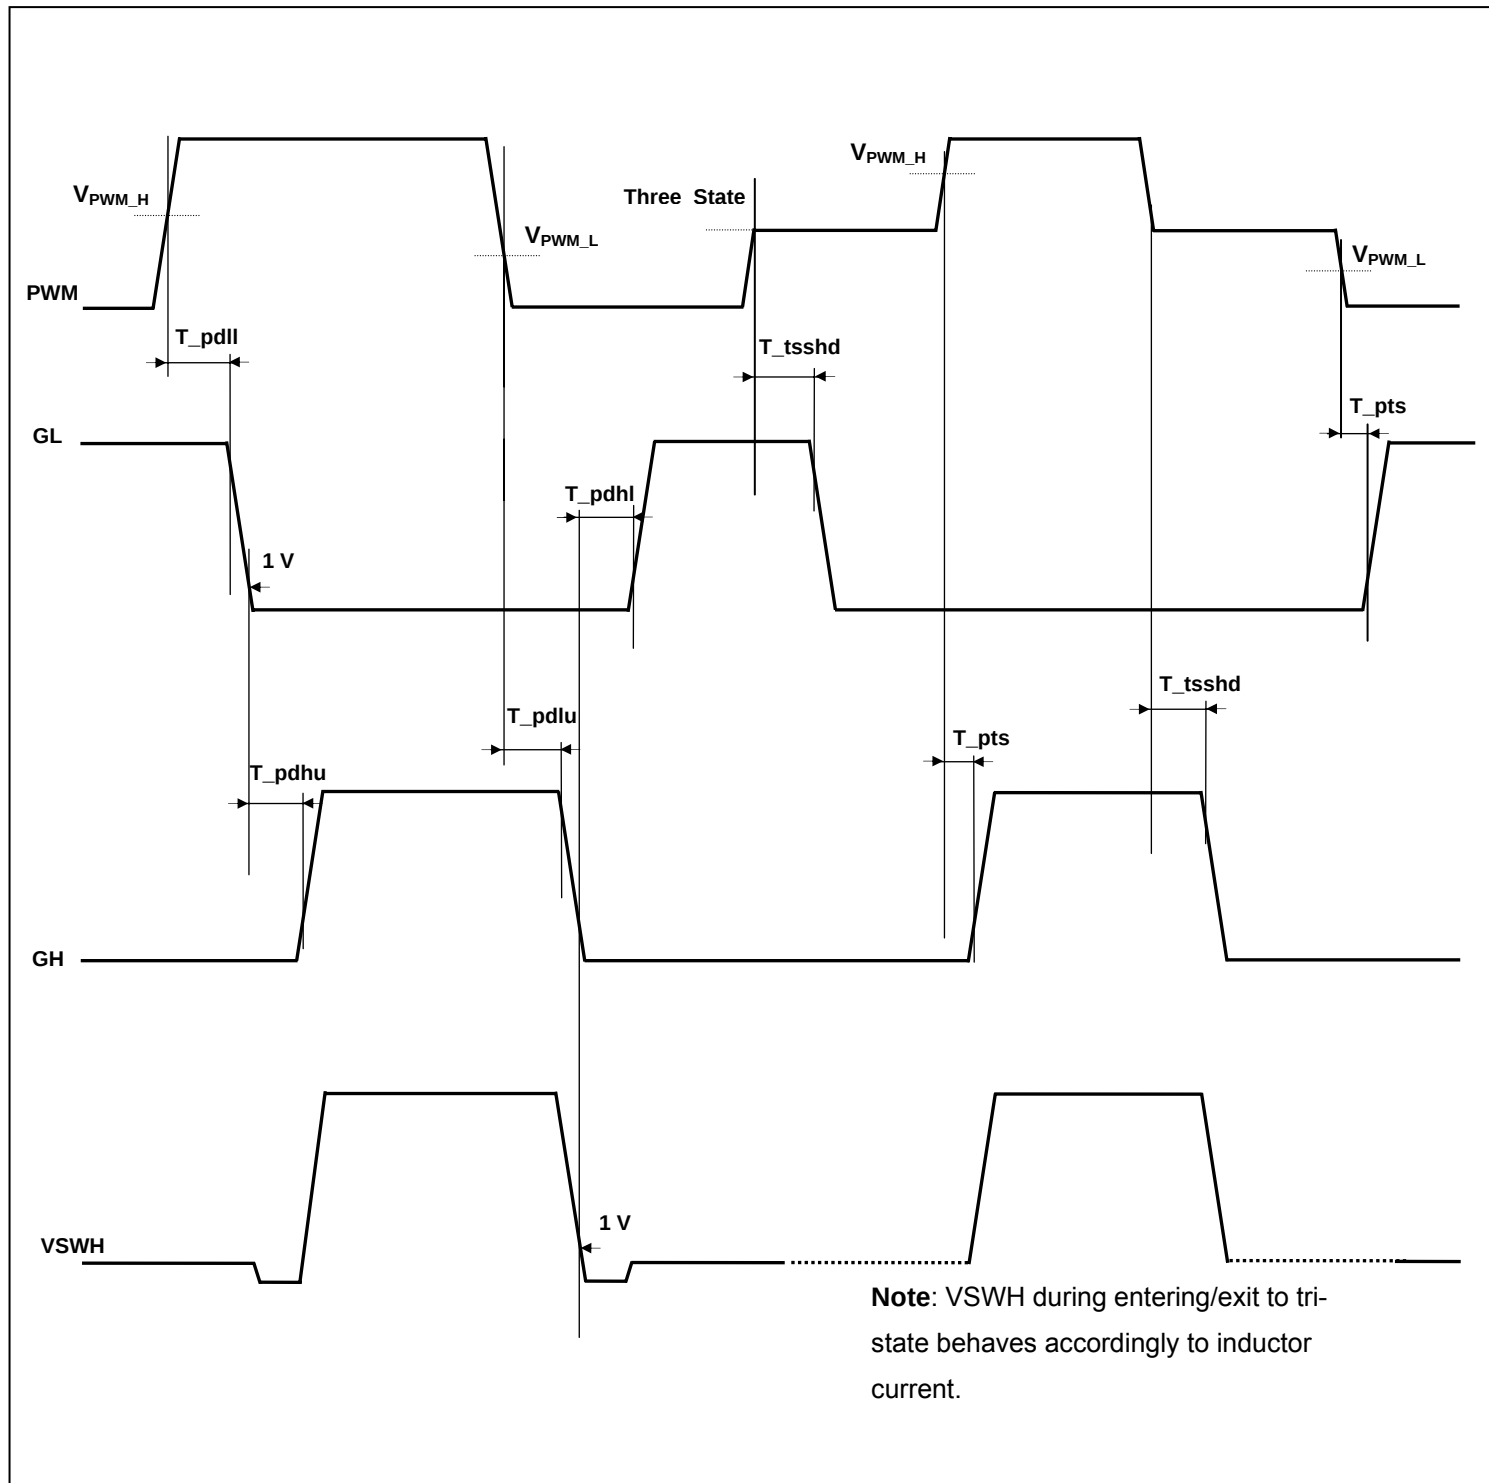

Figure 5: Adaptive Gate Driver Timing Diagram
The TDA21211 driver includes gate drive functionality to protect against shoot through. In order to protect the power stage from overlap, both HS and LS MOSFETs being on at the same time, the adaptive control circuitry monitors the voltage at the "VSWH" pin. When the PWM signal goes low, HS, the High-side MOSFET will begin to turn off, after the propagation delay (T_{pdlu}). Once the "VSWH" pin falls below 1V, LS, the Low-side MOSFET is gated on after the predefined delay time, (T_{pdhl}). Additionally, the gate to source voltage of the HS-MOSFET is also monitored. When VGS(HS) is discharged below 1V, a threshold known to turn HS off, a secondary delay is initiated, (T_{pdhl}), which results in LS being gated "ON" regardless of the state of the "VSWH" pin. This way it will be ensured that the converter can sink current efficiently and the bootstrap capacitor will be refreshed appropriately during each switching cycle. See Figure 5 for more detail.